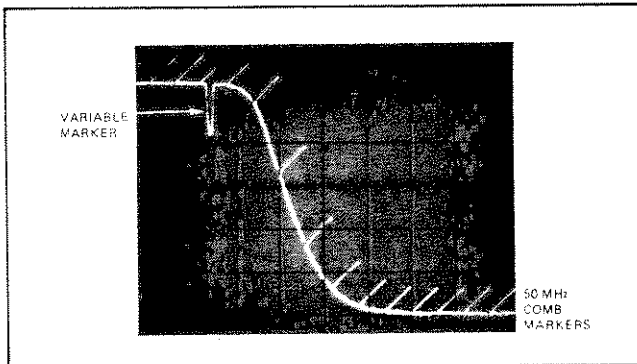

Figure 3-11. Bandpass Filter Measurement Showing Marker Tilting
Marker controls provide control over sweep generator markers that appear on the 560A CRT. If the WILTRON 6600(A) Series sweeper provides the markers, threshold control is provided by the front panel OFF-THRESHOLD control. If the Hewlett-Packard Model 8620 provides the markers, markers appear on screen when the OFF-THRESHOLD control is moved from the OFF (detent) position. In the case of either sweep generator, markers are fixed in amplitude. The THRESHOLD control, when used, determines only the threshold voltage at which internal marker circuitry responds to external marker inputs. The front panel TILT control provides up to plus or minus (\pm) 45 degrees of tilt for displayed markers. This tilting of markers is very helpful in identifying markers where the displayed signal has steep skirts, e.g. measurements of an electronic filter (Figure 3-11). Additionally, when the 6600(A) Series sweeper with its three different types of markers is used, the 560A response is different for each marker-type. This response is described below.
- a. INTENSITY Markers. The 560A responds to intensity markers only in the REAL TIME display mode. Markers appear as an intensified dot; see page 3-5, (9).